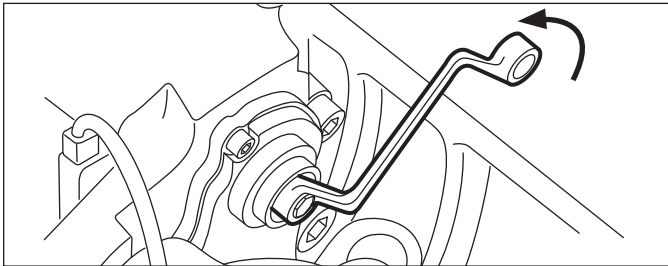

FIGURE 37 - BACKING OFF THE ADJUSTER FOR PAD REMOVAL
5.2.8 Use a 10 mm., six-point box wrench (See Figure 37) to turn the adjuster counterclockwise until sufficient space exists to remove the brake pads. A clicking noise occurs each time the adjuster turns.
- 5.2.19 Using the same tool, turn the Shear Adapter (61) **counter-clockwise** and listen for the sound of 3 clicks as the mechanism backs-off (increases) the running clearance. (See Figure 37).